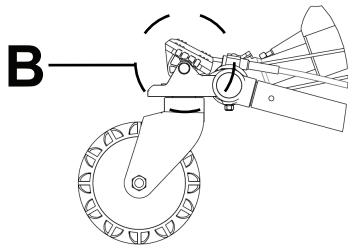

Figure 14 – Steer-Lock on
To apply **Steer-Lock** (B), press the red pedal down and toward the middle of the cot X-frame (Figure 14).